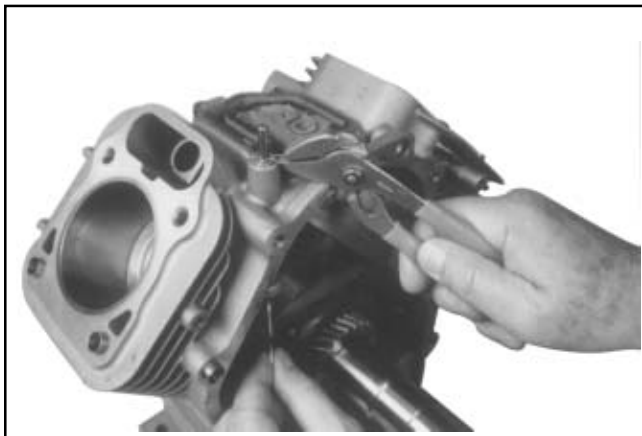

Figure 9-51. Removing Governor Cross Shaft Hitch Pin (6 mm Shaft Design).
1. Remove the hitch pin and plain washer, or the retainer and nylon washer, from the governor cross shaft. See Figures 9-51 and 9-52.